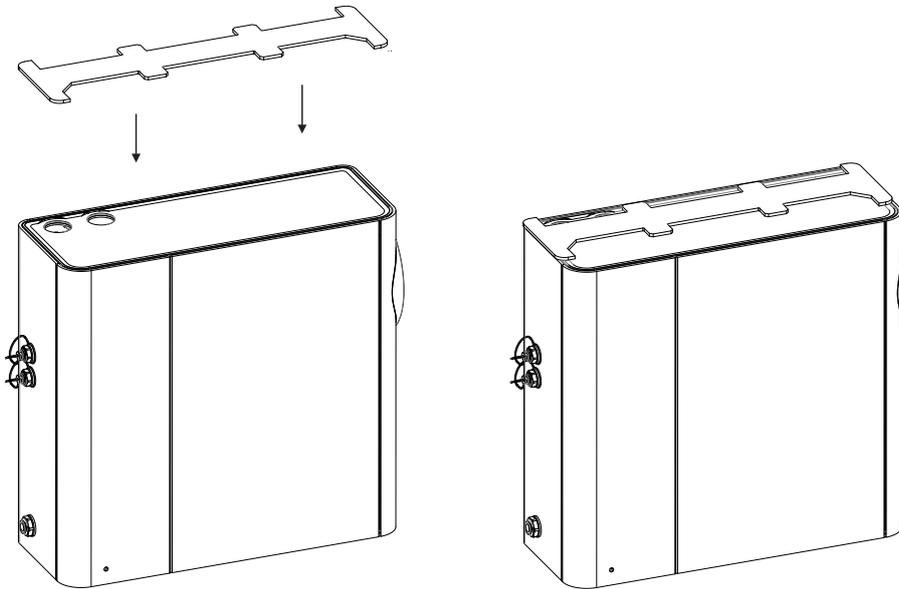

Figure A-30: Place the Mounting Bracket spacer on top of the detector
2. Place the mounting bracket spacer flat on top of the detector (Figure A-30).